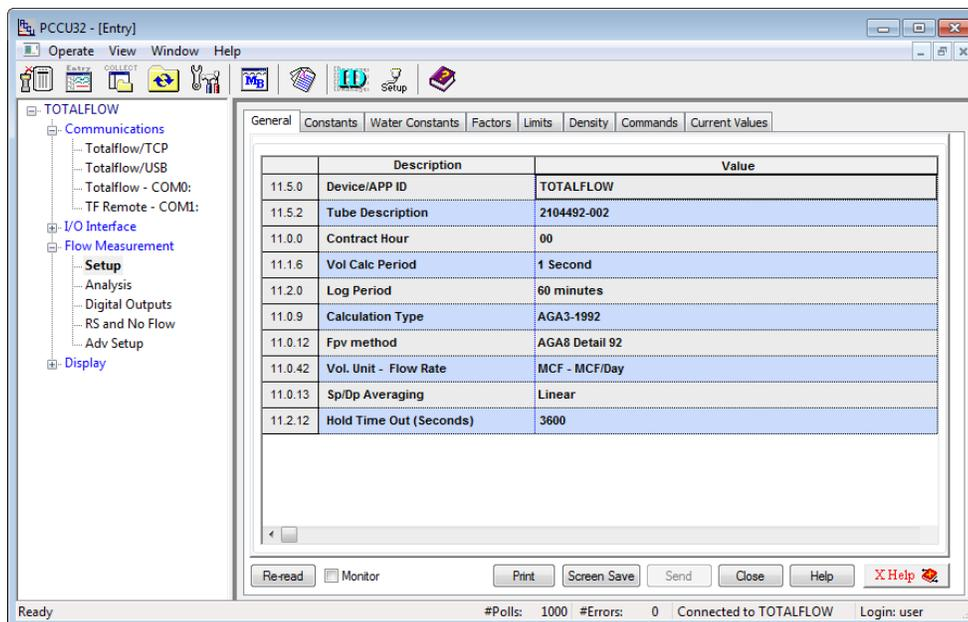

Figure 34: Measurement setup tabs
- On the **General** tab (Figure 34), verify, and change if necessary, the following settings and any other settings that may need to be changed: